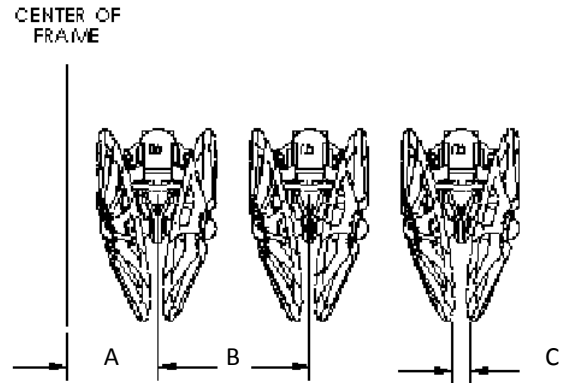

Figure 9: Lifter Strut Spacing
4.2.1 Lifter Strut Spacing: Verify the spacing matches the spacing of the planted crop as shown in Figure 9.
! CAUTION: Valves (1 & 2) must be open prior to engaging the PTO, or system failure will occur. Valves in Figure 9 are shown in the open position.